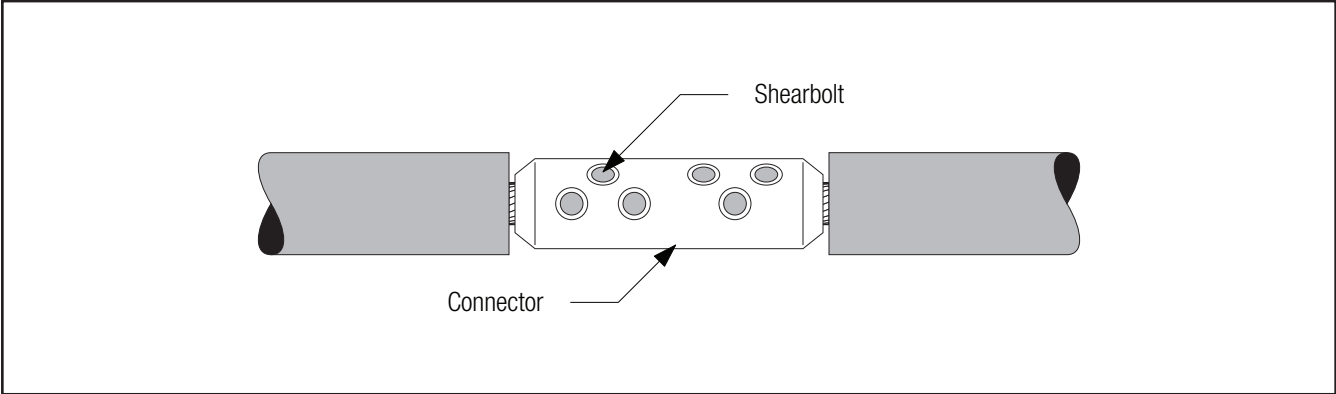

Figure 9
3.2 Install 3M™ Shearbolt Connector QCI 4/0-600 according to the instructions included with the connector (Figure 9).